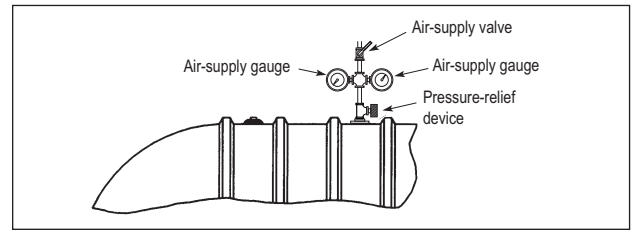
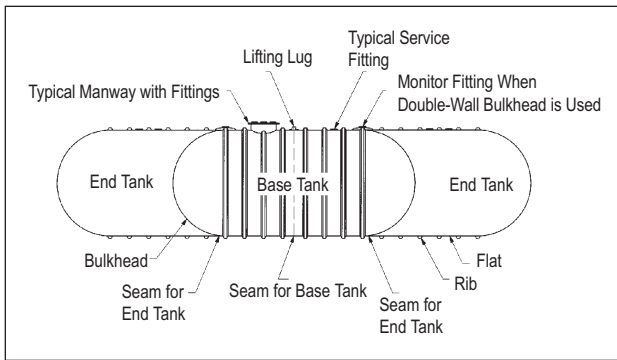
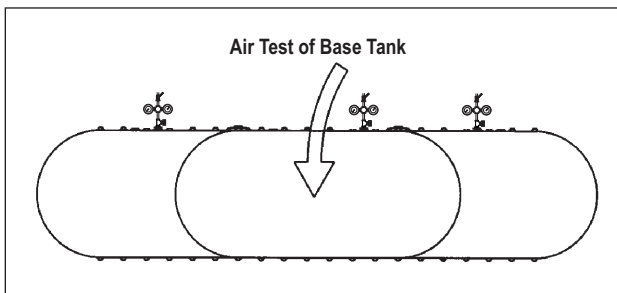
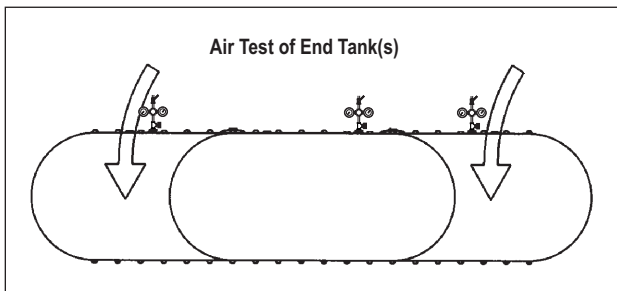

FIGURE 3-3
FIGURE 3-6
FIGURE 3-7
FIGURE 3-8
3.2.3. Install the test manifold in the open service fitting. Connect the pressure source to the test manifold. (See FIGURE 3-3.)
3.5.1.2. Redope fittings and install plugs in all openings, except one service fitting in each compartment (needed for the test manifolds). *Follow instructions in Point 3.1.5. (See FIGURE 3-6 and FIGURE 3-7.)*
3.5.2.1. Connect the pressure source to the test manifold on the base tank. (See FIGURE 3-3 and FIGURE 3-7.)
3.5.3.1. Connect the pressure source to the test manifold on the end tank(s). (See FIGURE 3-3 and FIGURE 3-8.)
3.6.1.2. Redope fittings and install plugs in all openings, except one service fitting in each compartment (needed for the test manifolds). *Follow instructions in Point 3.1.5. (See FIGURE 3-6 and FIGURE 3-7.)*
3.6.2.1. Connect the pressure source to the test manifold on the base tank. (See FIGURE 3-3 and FIGURE 3-7.)
3.6.3.1. Connect the pressure source to the test manifold(s) on the end tank(s). (See FIGURE 3-3 and FIGURE 3-8.)
3.8.2.5. Redope fittings and install plugs in all openings, except one service fitting in each compartment (needed for the test manifolds) and the reservoir fitting. Follow instructions in Point 3.1.5. (See FIGURE 3-6 and FIGURE 3-7.)